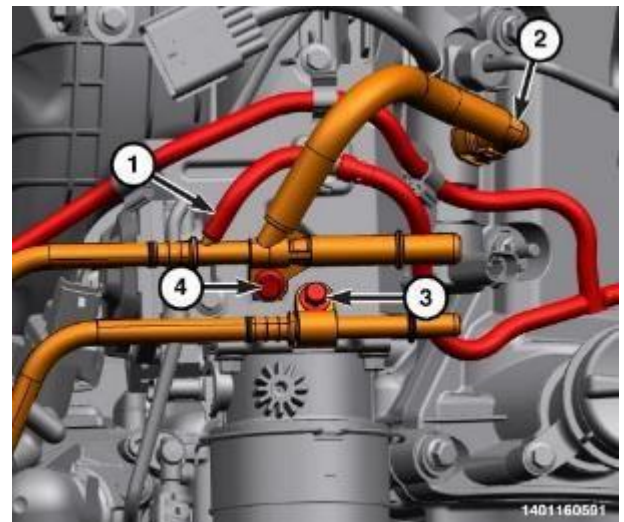

Figure 71 – Fuel Return Lines
- 122. Install the fuel return lines (1, 2) (Figure 71).